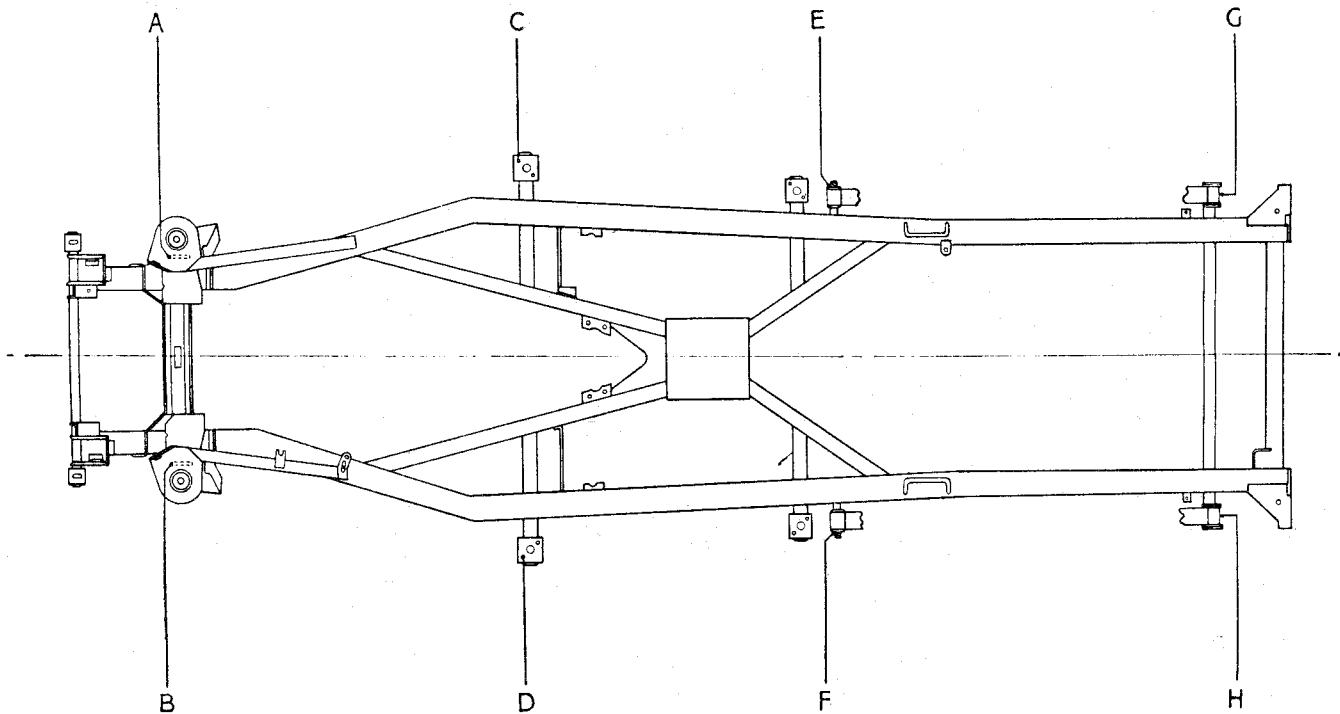

Fig. 3
- (e) Through the lower bolt hole pass the plumb bob cord from front to rear. Mark the floor directly under the plumb bob pointer. This operation is repeated on the other side of the chassis frame and so creates points A and B (Fig. 3).
- (g) Pass the plumb bob cord from below through the bolt hole. Mark the floor immediately below the plumb bob pointer. The operation is repeated on the other side and so creates points C and D (Fig. 3).
- (i) Pass the cord of the plumb bob over the fulcrum pin in such a manner that the bob hangs in front of the pin. Mark the floor immediately below the plumb bob pointer. This operation is repeated on the other side of the chassis and creates the points E and F (Fig. 3).
- (j) Thread the cord of the plumb bob from the rear and through the lower jig hole in the rear road spring shackle bracket. Mark the floor immediately below the plumb bob pointer. This operation, when repeated on the other side of the chassis frame, creates points G and H (Fig. 3).